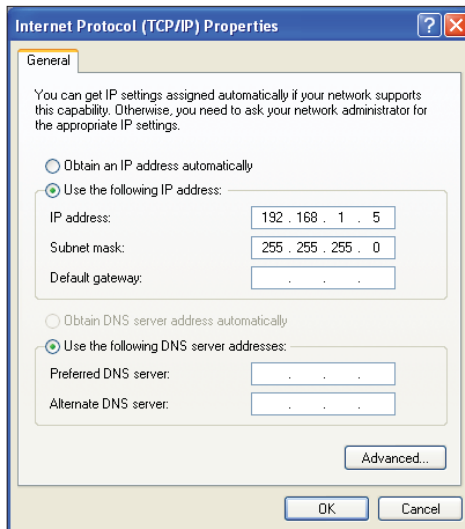

Figure 8: Internet Protocol Properties Window
- 6.) *Select* the radio button in front of **Use the following IP address (Figure 8)** and *write down* the current defaults so that you can re-enter them when you finish configuring the PT-Link and then *type in* the following information:
- 6.) *Choose* **Internet Protocol Version 4 (TCP/IPv4)** by highlighting it and then *click* <Properties>. The *Internet Protocol Properties Window* will appear (**Figure 8**).
- 7.) *Select* the radio button in front of **Use the following IP address (Figure 8)** and write down the current defaults so that you can re-enter them when you finish configuring the PT-Link and then type in the following information: